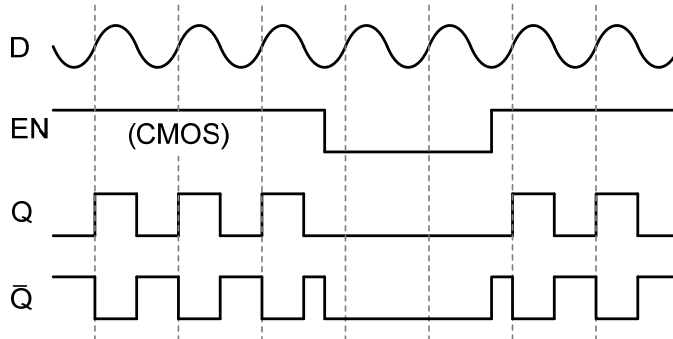

Figure 2
Figure 2 illustrates the timing sequences for the CTSLV394 in the ÷1 mode which is determined by leaving the DIV-SEL open (NC). It also illustrates the enable in the active High mode being controlled by a CMOS signal. This mode is determined by leaving the EN-SEL open (NC).